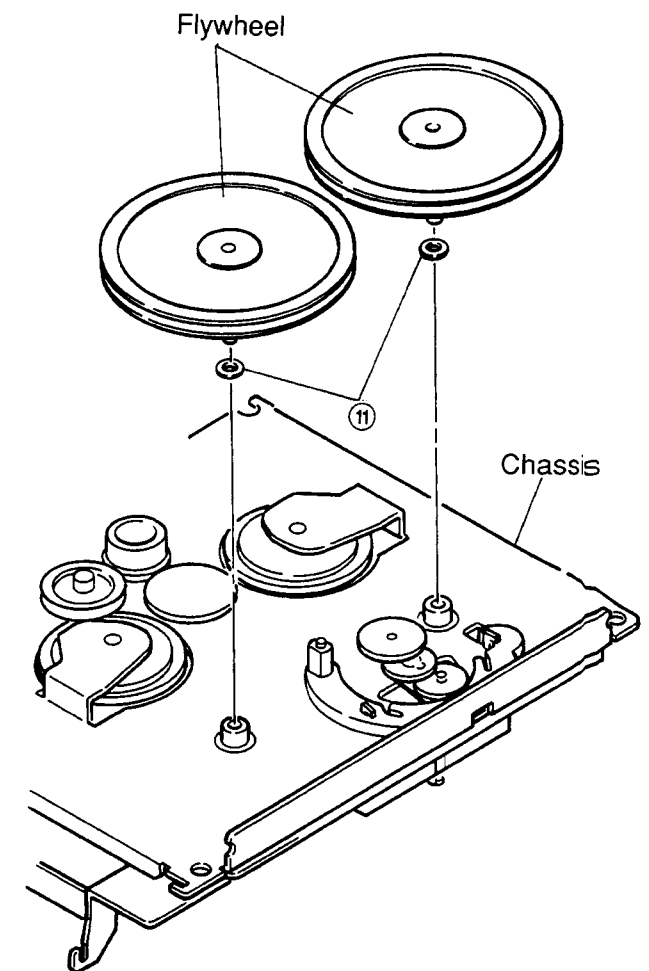

Figure 12
- (1) After removing the belt, pull out the two flywheels. Take care not to loose the polyslider washer ⑪ located between the flywheel and the chassis. (Refer to Figure 12.)
- (2) Fix the polyslider washer to the new flywheel and mount the flywheel to the chassis.